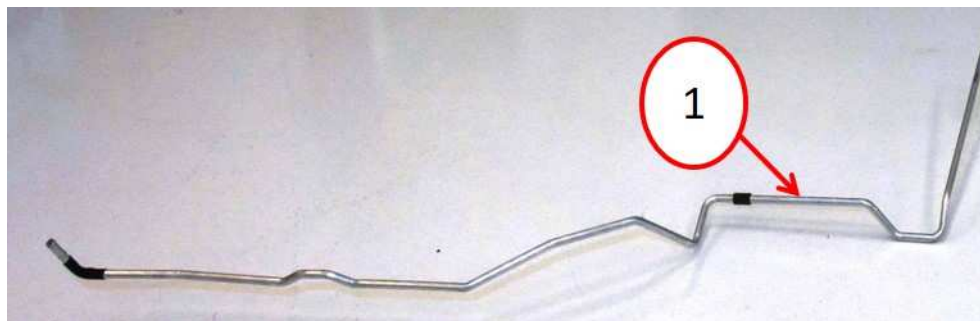

Fig. 6
- Using a suitable small pipe cutter or equivalent cutting tool and the new coolant tube P/N **68319146AB**, mark and cut the line shown in (Fig. 6) in the same location as the new coolant return tube cut in Step 8.